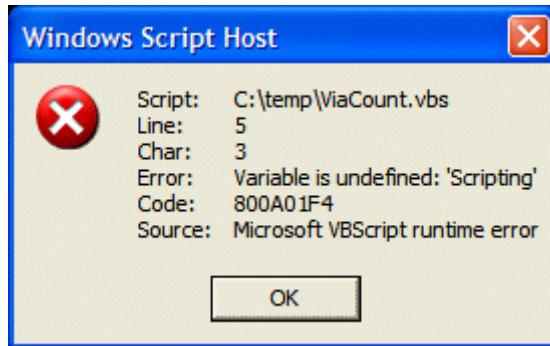

Figure 8-3. The *ViaCount* script fails in *Wscript.exe*
- 4) Now, double-click on the *ViaCount.vbs* script, which you also created in *Chapter 3*. This script fails as illustrated in Figure 8-3, because it is attempting to access the *Scripting* object and this object is not supported by the *Wscript.exe* scripting engine.